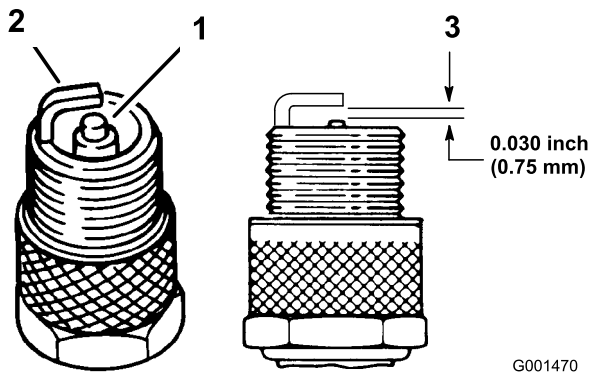

Figure 36
4. Check the condition of the side electrode, center electrode, and center electrode insulator to ensure that there is no damage (Figure 36).
5. Set the air gap between the center and side of the electrodes at 0.762 mm (0.030 inch) (Figure 36).